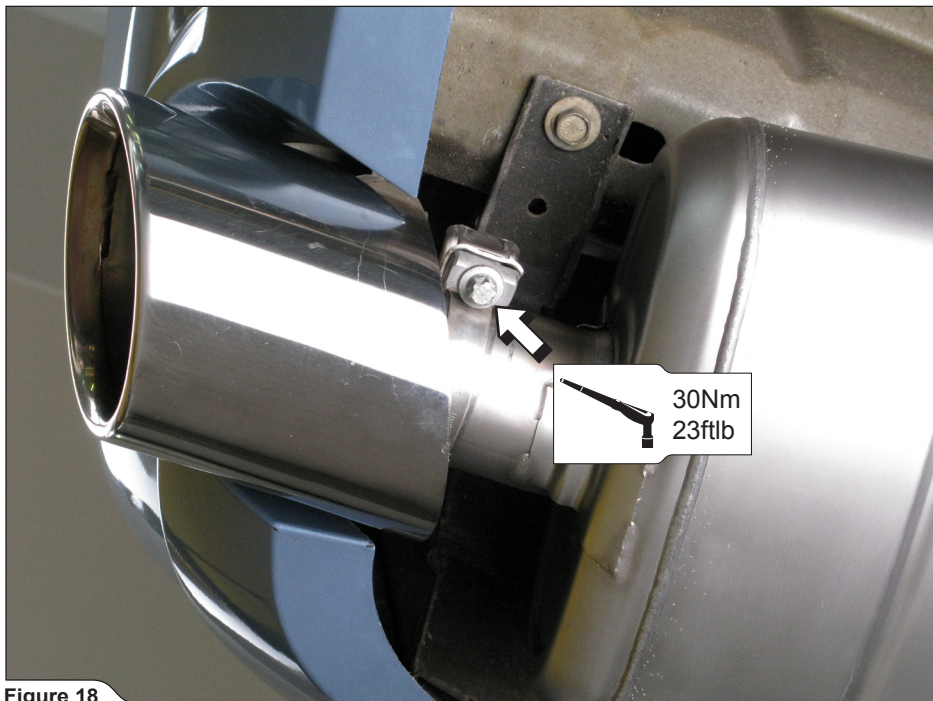

Figure 18
12. **For Slip-On and Evolution:** tighten the Tail-Pipes' clamps on both sides of the vehicle to a specified torque (**Figure 18**).